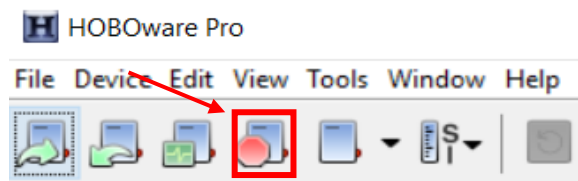

Figure A.9.21: HOBOWare “Stop Logging” Button
2. If satisfied with the accuracy of the measurements, click the “Stop Logging” button on the top left corner of the screen (Figure A.9.21).